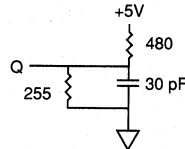

Fig. 1 OUTPUT LOAD EQUIVALENT
Output load	See Figures 1 and 2
5. Test conditions as specified with the output loading as shown in Fig. 1, unless otherwise noted.